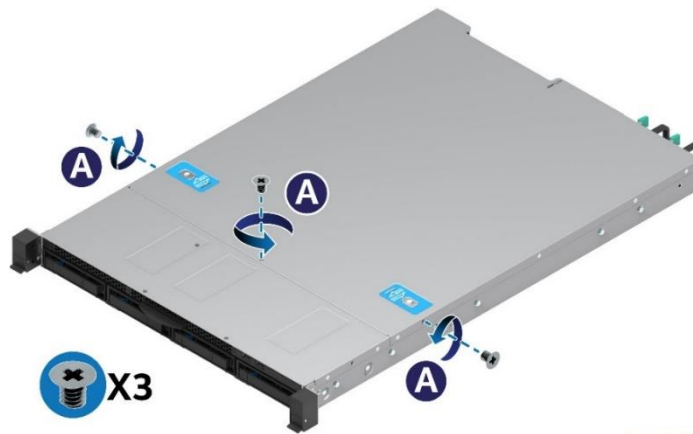

Figure 3. System Top Cover Screws
1. Remove the three top cover screws (see Figure 3).